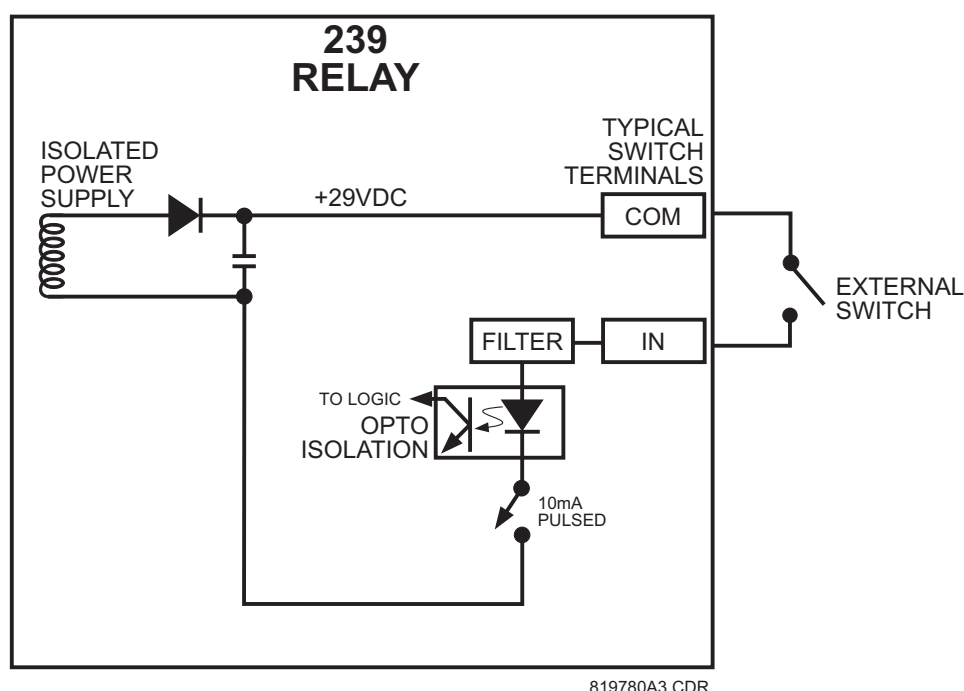

Figure 2–5: SWITCH INPUT CIRCUIT
- **SERVICE RELAY (32/33/34):** If the 239 detects an internal failure during its self monitoring or if control power is not present, the NO/COM terminals of the service relay will be open to indicate that service is required. This relay is internally programmed to be failsafe so that in the normal condition, with control power applied, the relay is energized and the NO/COM terminals shown in Figure 2–3: TYPICAL WIRING DIAGRAM on page 2–4 are closed. Connect these relay contacts to a suitable signaling input of a DCS system.